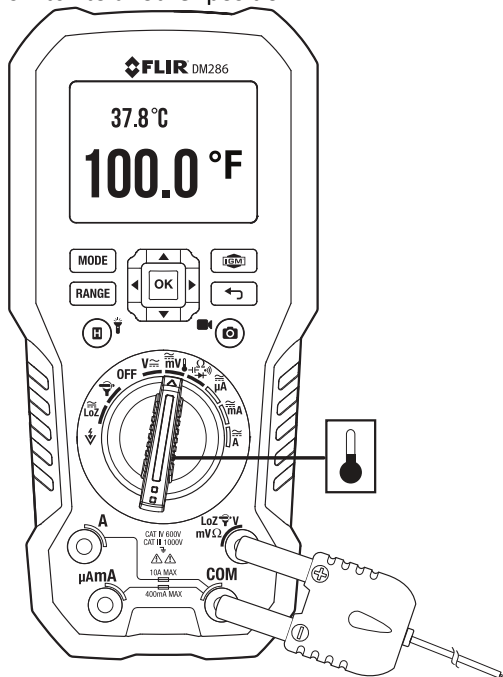

Fig. 9.8 Temperature Measurements
1. Set the function to the Temperature K position. See **Fig. 9.8**.